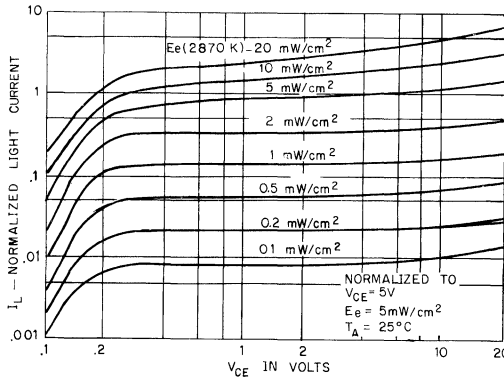
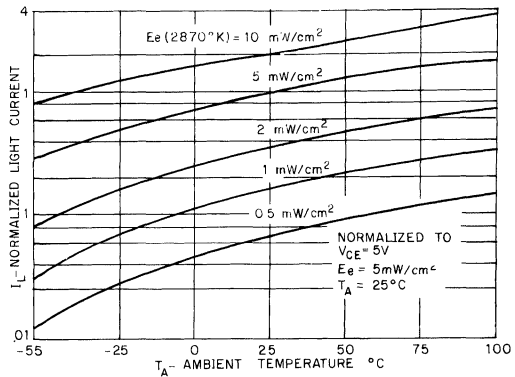

Fig. 1. Light Current vs. Collector to Emitter Voltage ST1110-11
Fig. 2. Light Current vs. Ambient Temperature ST1113-11
7. Figure 1 and figure 2 use light source of tungsten lamp at 2870°K color temperature. A GaAs source of 3.0 mW/cm² is approximately equivalent to a tungsten source, at 2870°K, of 10 mW/cm².